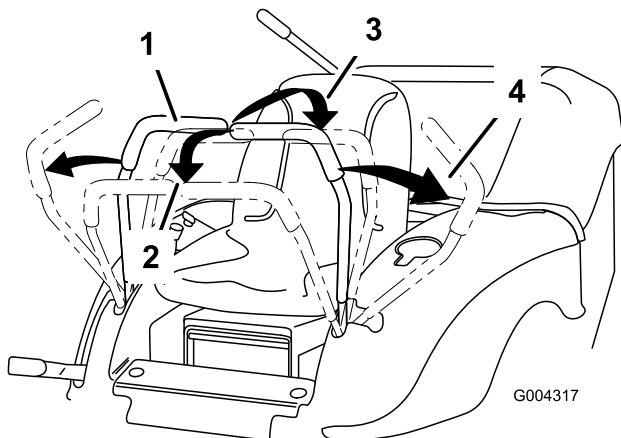

Figure 12
2. To go forward, slowly push the motion control levers forward (Figure 12).
To go straight, apply equal pressure to both motion control levers (Figure 12).
To turn, release pressure on the motion control lever toward the direction you want to turn (Figure 12).
2. To go backward, slowly pull the motion control levers rearward (Figure 12).
To turn, release the pressure on the motion control lever toward the direction you want to turn (Figure 12).